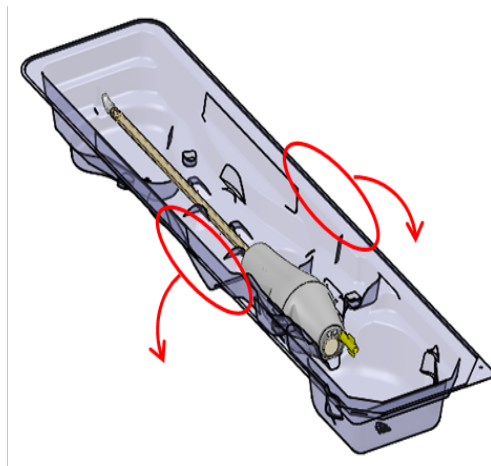

Figure 18: Releasing the UA from the packaging tray
1. **MRI Technologist**: Using the fluid circuit (FC) tab of the PSIB display (or the FC information box of the Setup workspace in TDC), flow water into the UA by clicking **ON**.
5. **MRI Technologist**: While holding the UA packaging tray by the long edges of its perimeter, flex the tray to release the UA from its snap features (*Figure 18*).